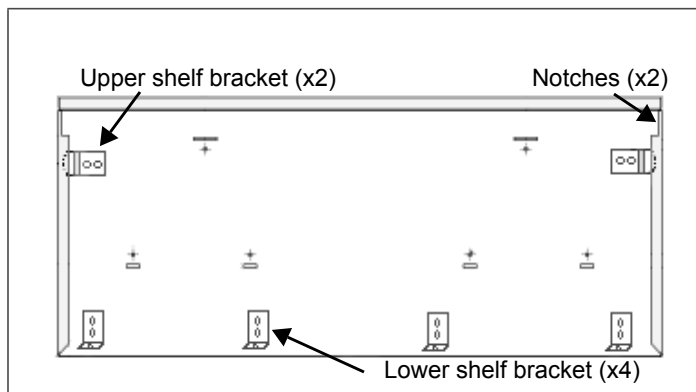

Figure 15: 48" Back of Wall Plate
2. Mount the (2) top shelf brackets and the (3) lower shelf brackets at the locations outlined on the templates. Secure with the (10) 1" (25.4mm) screws provided.
4. Insert the (3) U-Nuts onto the (3) lower shelf brackets.
5. Install the wall plate by setting the corner notches (back of wall plate) atop the (2) top shelf brackets. Slide the shelf upwards until the bottom engages with the (3) lower brackets (Figure 15).